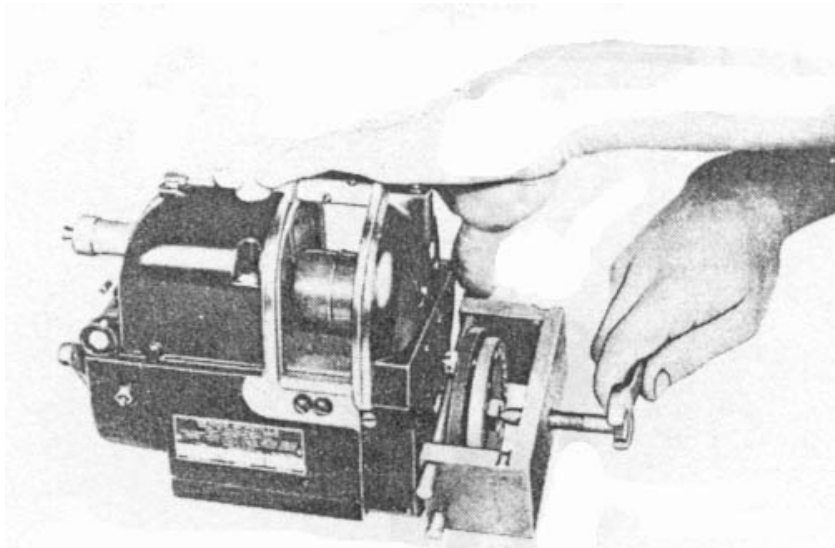

Figure 12 - Removing Magneto Coupling Assembly From Magneto.
- (1) Using gear puller No. FA-268 as shown in figure 12 tighten screw against end of magneto shaft.